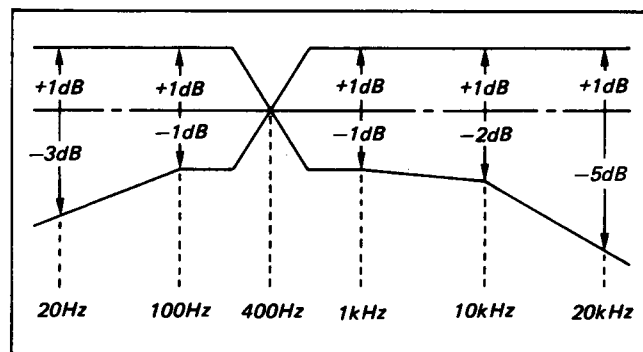

Fig. 5-30.
- (6) Turn the BETA Hi-Fi selector switch to ON, the MPX FILTER and PCM selector switches to OFF, and apply a 400 Hz signal to audio line input pin.
- (7) Set up the E-E mode and adjust the oscillator output level so that the level meter reading is -20 dB.
- (8) Record signals.
- (9) Change the frequency to 20Hz, 100Hz, 400Hz, 10kHz and 20kHz and repeat Steps (7) and (8).
- (10) Playback the recorded section of the tape and verify that the level is within the specification. (See Fig. 5-30)
- (11) Turn the MPX FILTER and PCM selector switches on, and repeat item (7) with input signal frequency of 16 kHz.
- (12) Confirm that the output level at 16kHz is -20 dB or less relative to the output level at 400Hz.